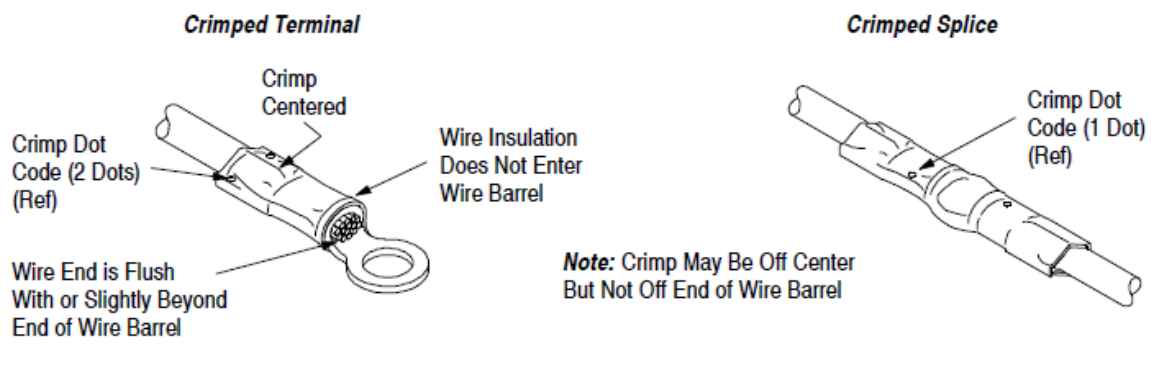

Figure 3
7. Inspect terminal or splice to ensure a proper crimp. Refer to Figure 3.